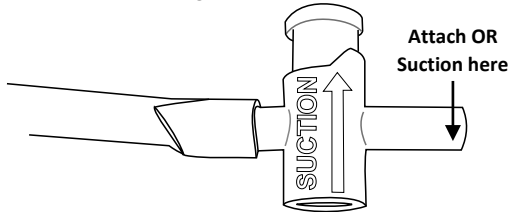

Figure 3: Drain T- Valve in Open Position
**Step 8d** – Switch the Drain T- valve to the open position by pressing the white actuator up (open is depicted in Figure 3). Remove air from the stomach by applying no more than 150 mmHg suction. Maintain visualization of the stomach during deflation.